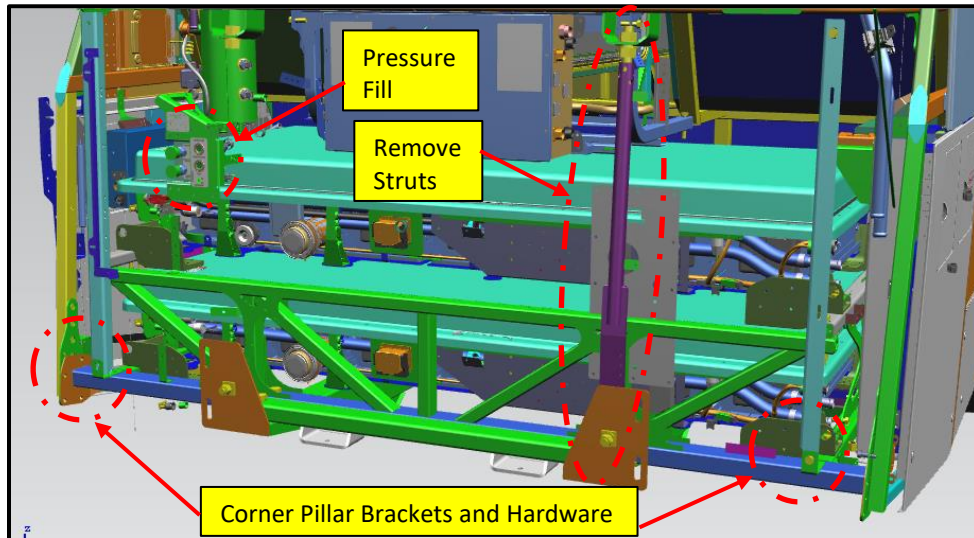

Figure 17: Rear Struts and Side Structure Hardware Removal Location Reference.
58. Remove the corner pillar bracket mounting hardware and set aside for re-installation. See Figure 17.
59. Remove the street side and curbside struts as follows: See Figure 17.
60. Remove the pressure fill assembly mounting hardware and set aside for re-installation. See Figure 17.